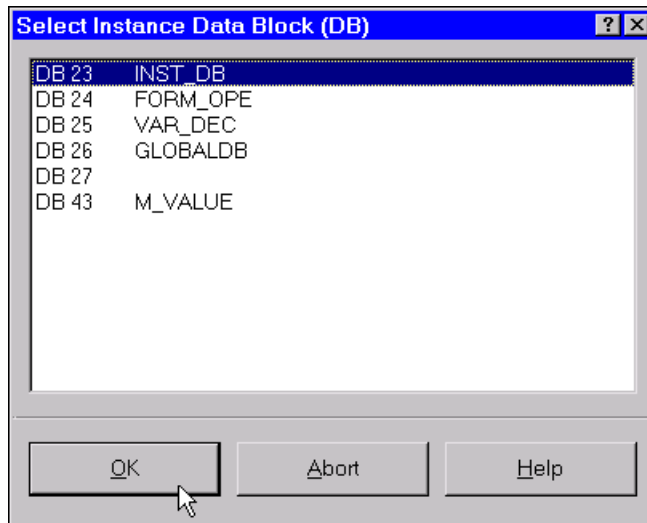
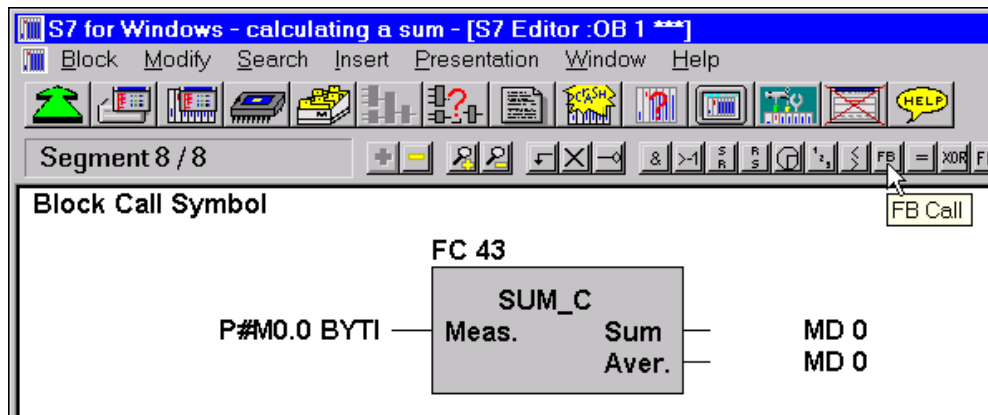

Figure 5-95 Select Instance Data Block (DB) dialog box
Figure 5-96 CALL function symbol
An example of the Select Instance Data Block (DB) is shown in figure 5-95. The figure 5-96 shows the function symbol of an FB Call.